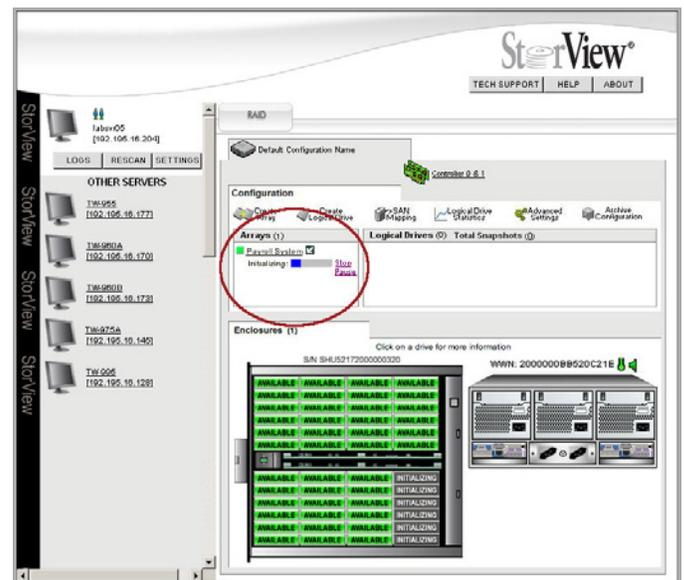

Fig. 31 - Reminder Message – Profiles Settings Mismatch Example
**NOTE:** Making a change to a setting from the profile selected settings are not reset or changed when the user changes to another profile. If you altered the settings of a profile, close the window and click the Create Array button on the tool bar again. See Fig. 31 for an example of mismatched settings and the on screen warning message.